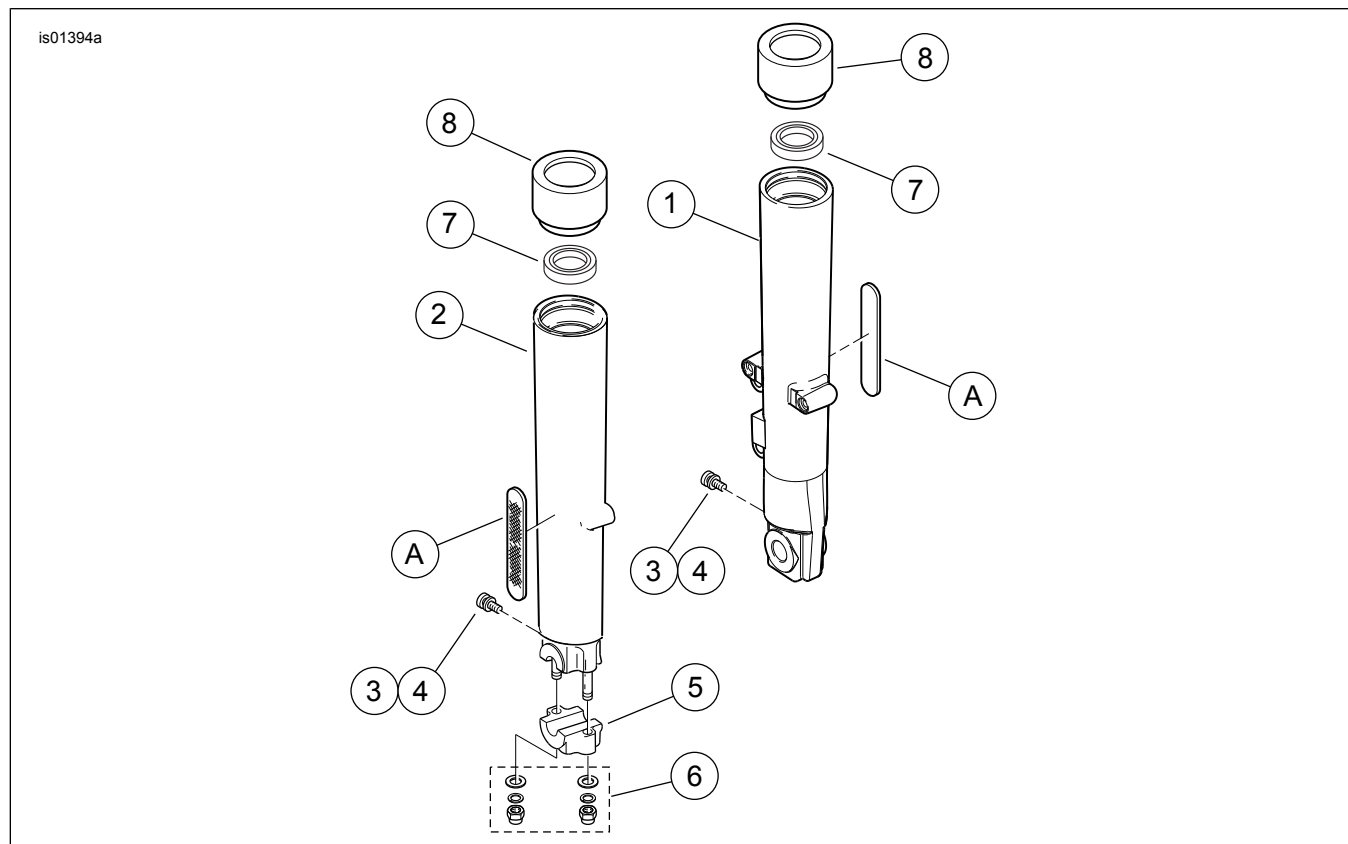

Figure 3. Service Parts: Chrome Fork Sliders
See Figure 3 and Table 1.
3. Disassemble the front fork tubes according to instructions in the Service Manual, and replace the original fork sliders with the chrome sliders (see Figure 3, items 1 and 2) from the kit.
4. Assemble the front fork tubes, replacing worn seals, bushings or other additional items as needed. Two new slider oil seals (7) are included in the kit.
- Using a piece of dental floss (or similar material) in a back and forth motion, loosen the reflector ( Figure 3, A) from the fork slider at both ends. Rotate the reflector from side to side until it can be removed from the fork slider. Retain the reflector for installation to the **new** slider. Repeat the procedure on the opposite side fork slider.